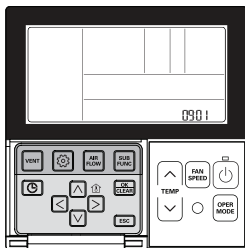

figure 1.
- \* If selected as the operation 'slave', it displays **[ON]** in the remote controller screen as shown in figure 1.